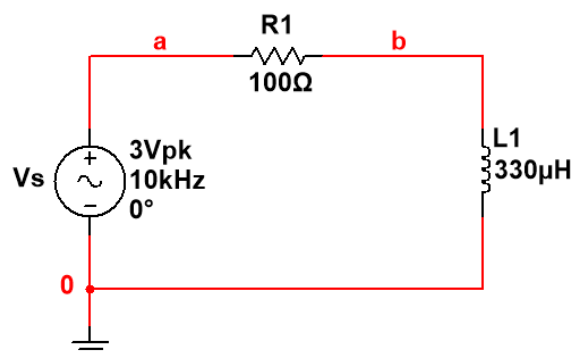

Fig.B.1.2: Series RL circuit
9. Now, replace the capacitor ( $C_1$ ) with the inductor ( $L_1$ ) to construct the circuit shown in **Fig.B.1.2**.